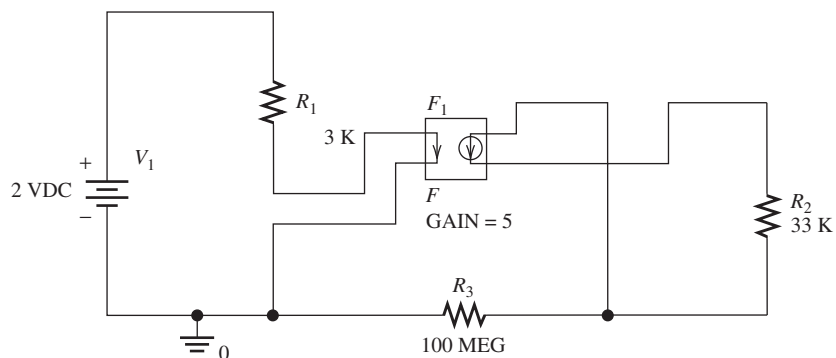

FIGURE 2.89 Spice schematic circuit for Figure 2.88.
1. First, set up the PSpice Schematic as shown in Figure 2.89.
4. After connecting the wires shown in Figure 2.89, double-click the F icon to open the schematic properties window shown in Figure 2.90.